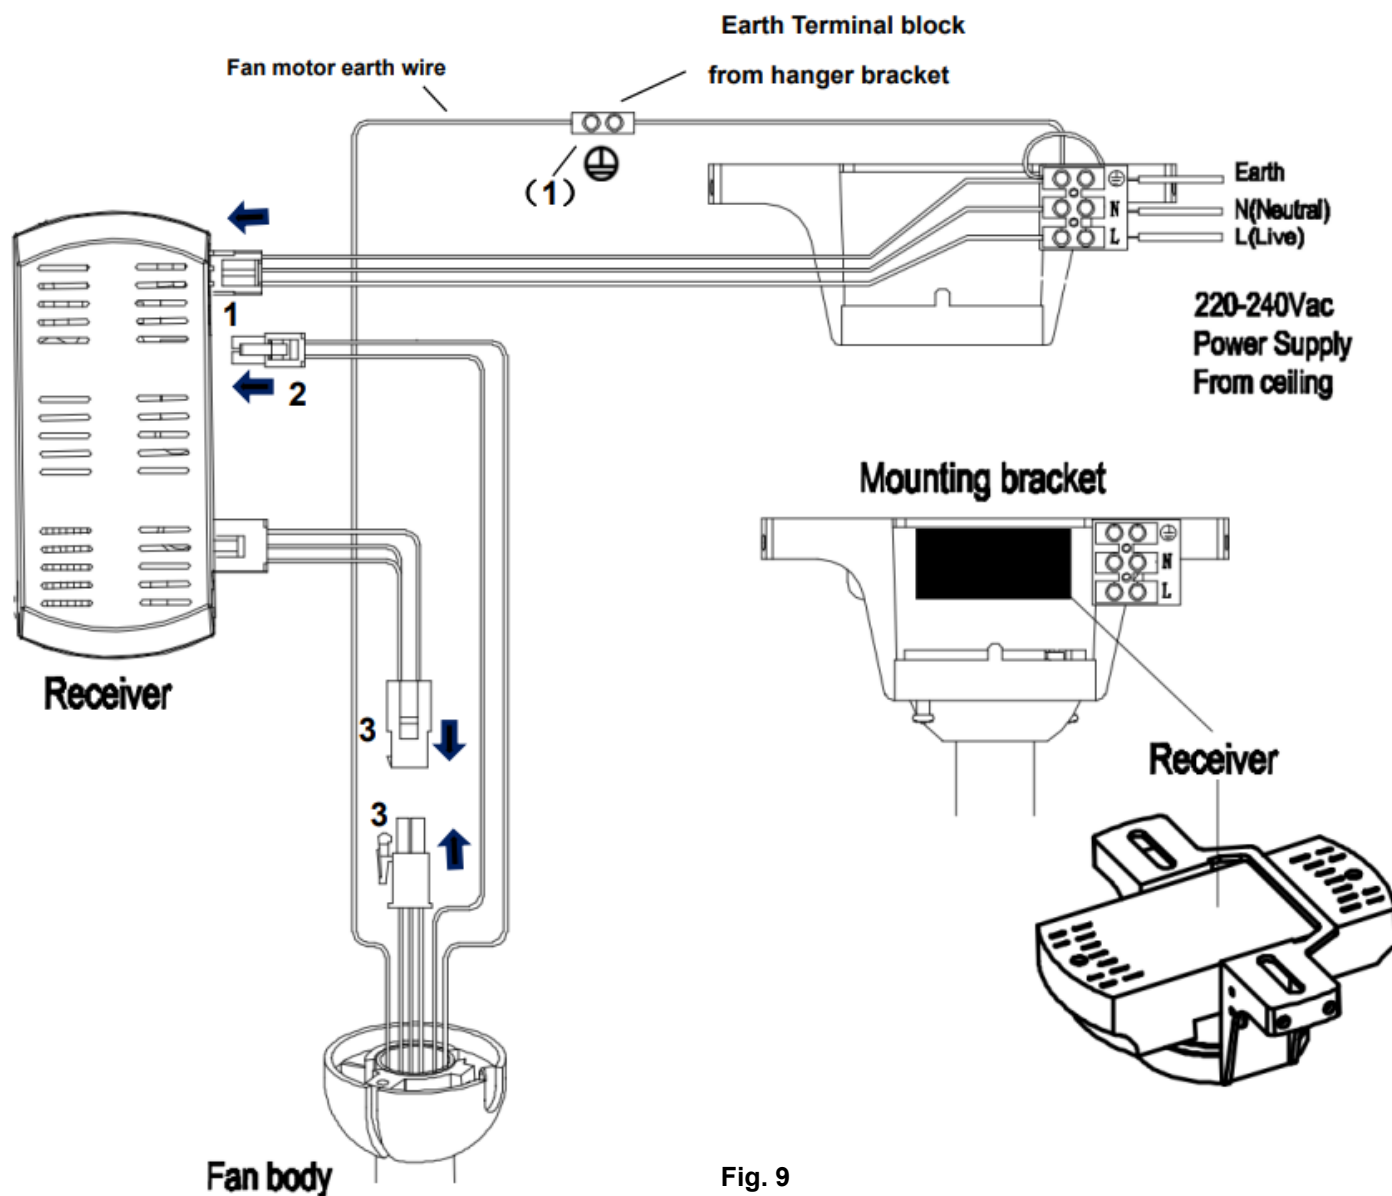

Fig. 9
**ELECTRICAL WIRING DIAGRAM THE FAN****PREPARE AND COMPLETE THE ELECTRICAL WIRING --- WIRING DIAGRAM (FIG. 9)**
**NOTE:** Ensure the motor earth wire is connected to the single earthing terminal block “ (1) ” in the diagram below (Fig. 9).
**From mains supply to mounting bracket terminal block:** (Fig. 9)
**From mounting bracket to receiver and motor:** (Fig. 9)
4. Insert the supply wiring quick connector (1) from the mounting bracket to the fan receiver.
5. Insert the input wires quick connector (2) from the fan assembly into the fan receiver.
6. Connect the input wires quick connector (3) from the fan receiver to the input wires quick connector (3) from the fan assembly.
Carefully insert the Remote Receiver above the hanger ball in the remainder spacing in the mounting bracket. Take care not to damage or loosen any of the wiring. (Fig. 9).